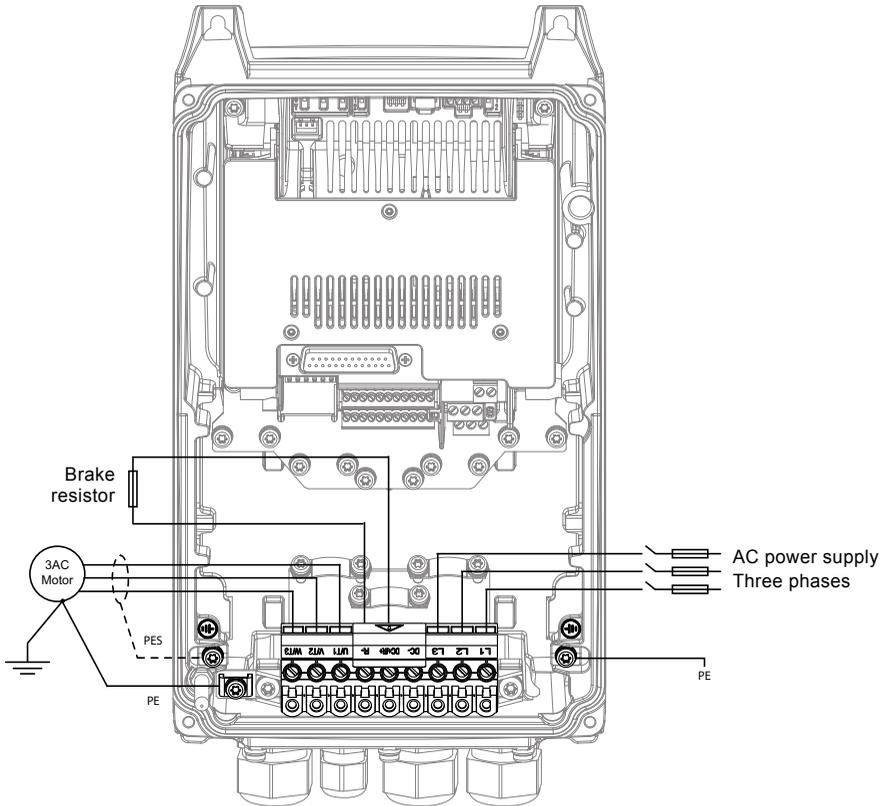

Fig. 16 Power connections, Frame A
- 2 = Symmetrical power cable equipped with concentric protection wire and intended for the specific mains voltage. (MCMK or similar recommended). See fig. 16.
- 3 = Symmetrical power cable equipped with compact low-impedance shield and intended for the specific mains voltage. [MCCMK, EMCMK or similar recommended; Recommended cable transfer impedance (1...30MHz) max. 100 mOhm/m]. See fig. 16.